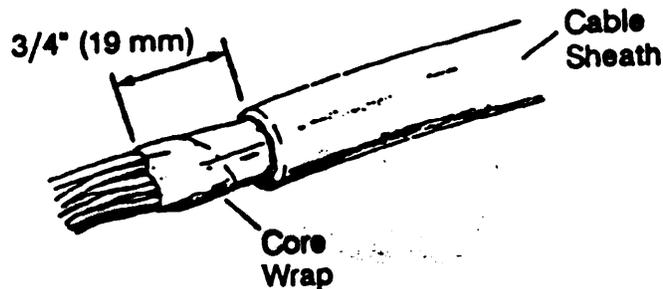

Figure 4.1 - Preparation of Single Sheath Cable
4.01 The 4460-D Shield Connectors can be used on both single and double sheath cables. For use on single sheath cables, remove 3/4" (19 mm) of cable sheath exposing the Core Wrap. Cut the shield flush with the sheath. See Figure 4.1, this prepares the sheath for installation of the 4460-D.